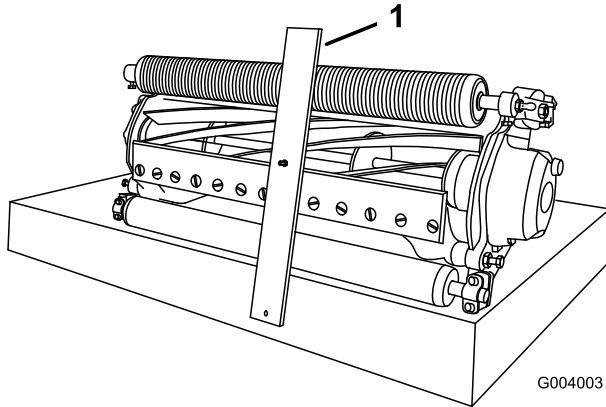

Figure 10
- Hook screw head on cutting edge of bedknife and rest rear end of bar on rear roller (Figure 10).